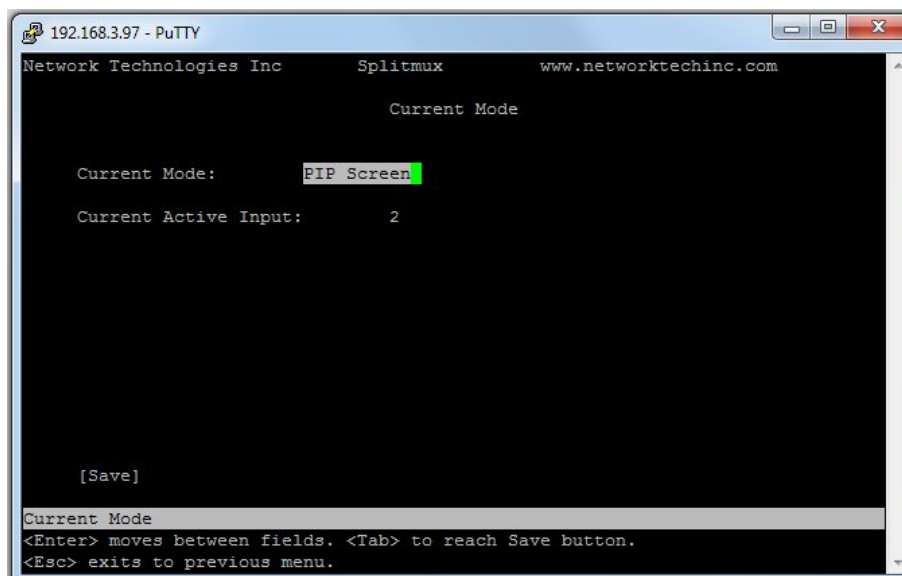

Figure 40- Text Menu-Current Mode Selection
- To move from menu list to action key (such as “Save” in Figure 40), press <Tab>.